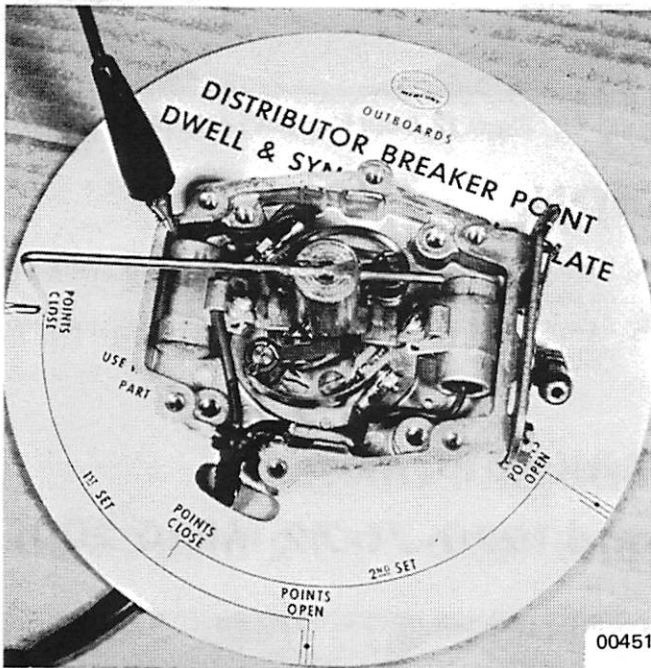

Figure 7. Dwell Plate (C-91-30356A1)
5. Move degree plate in either direction that is required to place "Points Close" mark directly under indicator arm. (Figures 7 and 8)